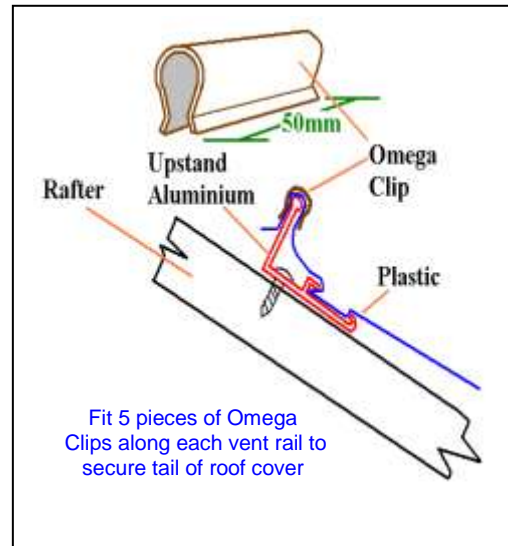

Fig 3
- If a roof ventilator is fitted, you can now cut a slit in the roof part of the plastic film between the two aluminium angles (at the apex). The slit will be approximately 2.4m in length. Place hands through the plastic slit & insert the white locking strips into each of the 2.4m length aluminium angles. Then locate the 10 omega clips as per fig 3.